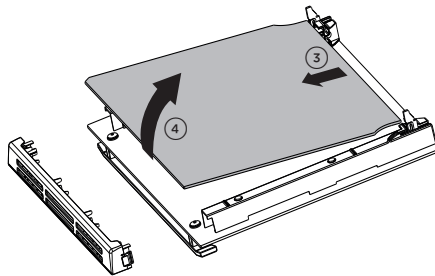

Fig. 8.13
- Gently lift and pull out the inner pane of glass by releasing it from the bottom retainers. Do not angle the pane too much as you may damage the glass (fig. 8.13).